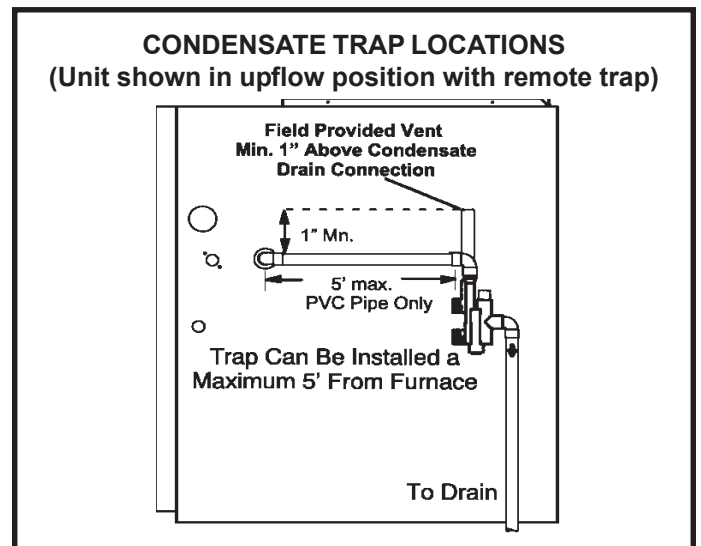

Figure 31
5. Installed field provided vent on trap assembly as shown in Figures 31 through 34. Vent must extend at least 1" above the furnace condensate drain connection in upflow applications and 4-1/2" above the bottom of the cabinet in horizontal applications.